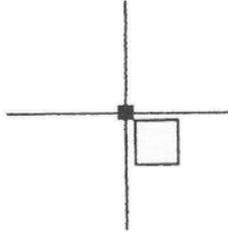

Figure 6.18
7. Press F1 and F2 repeatedly to move the white position indicator box (in the diagram to the right of the keys). The position of this box determines where the annotation will originate in relation to the red cross-hairs on the graph. For example, if you move the box to the lower right corner of the cross-hairs (see Figure 6.18), the origin of the annotation box will be its upper left corner. The origin you choose is the area of the box that will appear where you place the cross-hairs in step 8.